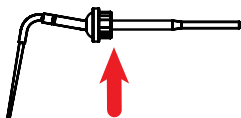
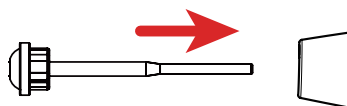

Figure 5 Tip
Figure 6 Installation of tip
3. Select the desired work tip and the hexagonal plug on the tip (as indicated by the red arrow in Figure 5). When installing the work tip as shown in Figure 6, you can select the appropriate direction according to the usage to insert the tip into the Heating and Packing Instrument.